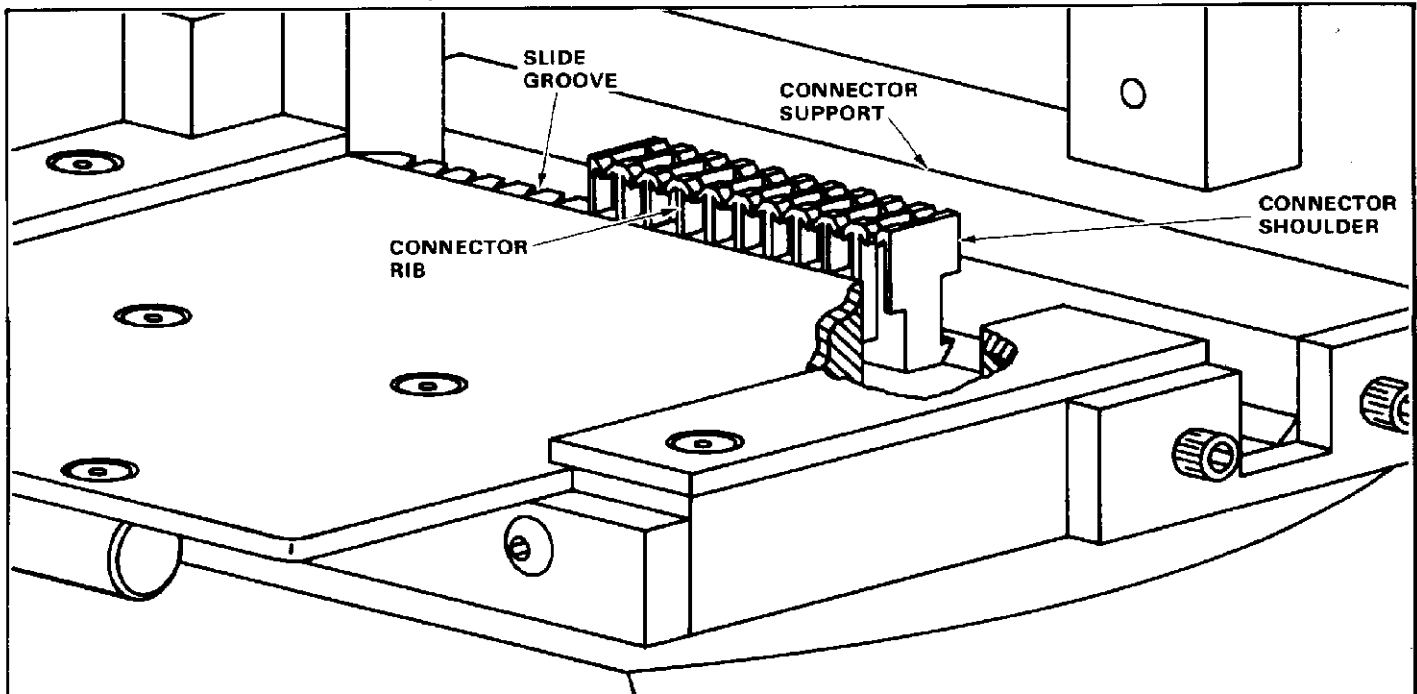

Fig. 5
4. Pull locator slide outward and insert connector — then slowly release slide while guiding connector ribs into slide grooves. See Figure 5.